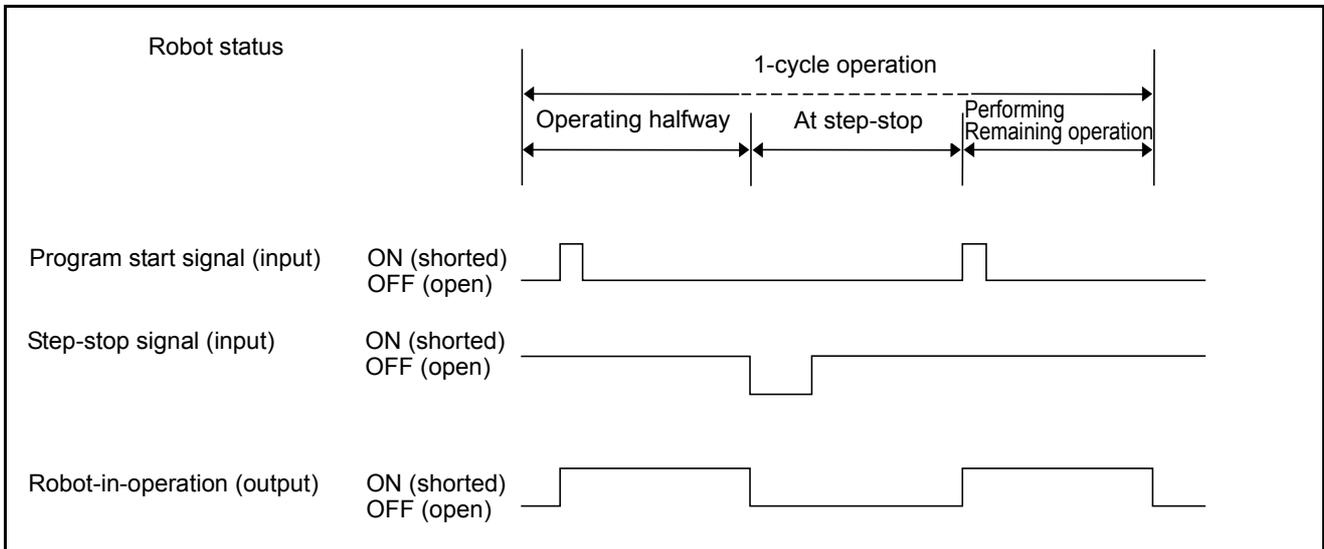

Figure 5-11 Step Stop Signal
- ① If the state of this signal is changed from ON (shorted) to OFF (open), the robot will stop all tasks as soon as the ongoing step is completed, and the Robot-in-operation signal will be turned OFF. However, auto mode or external mode will remain valid, and the suspended program will be resumed by inputting a program operation command (start). See Figure 5-11.
- ② For resuming the program after a step stop, see Chapter 5, "5.4.3.2 Program Operation Command (0001)".